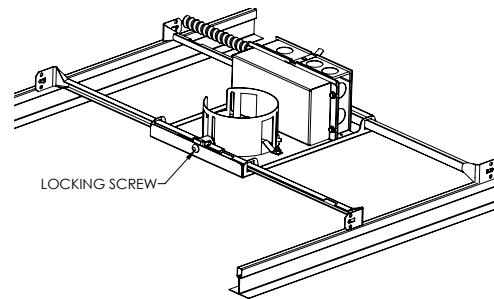

FIGURE 3
1. Loosen locking screws to extend hanger bars. "See Figure 3.